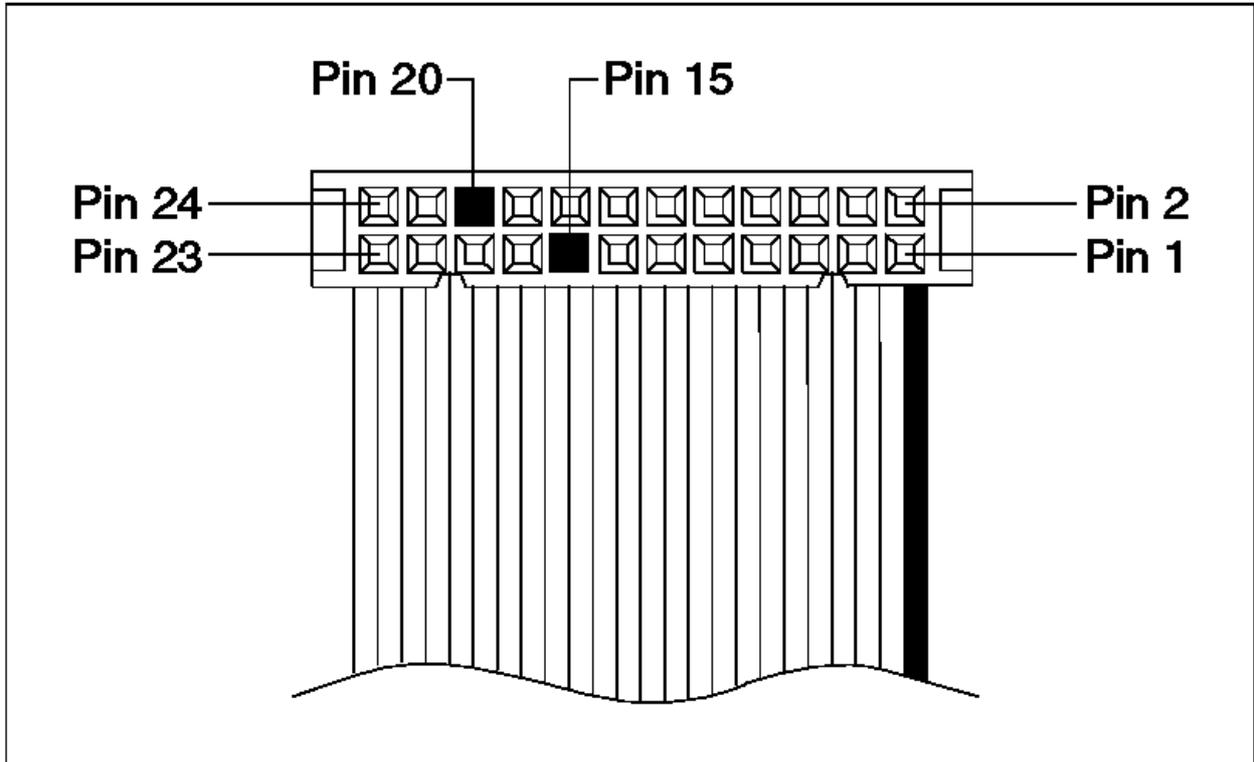

Figure 6-34. Extension Card Cable Connector
- Disconnect the extension card cable from J2 on the printer card. See Figure 6-38 in topic 6.36 for the locations of the printer card connections. See Figure 6-34 for the locations of the cable connector pins.